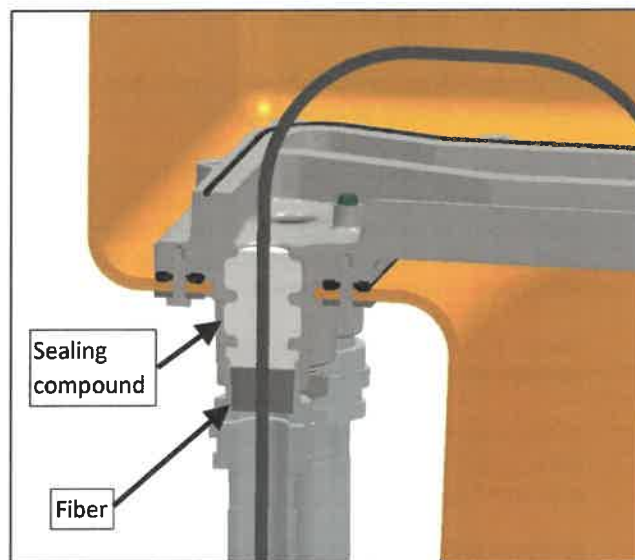

Figure 20
h) Integral sealing fittings are available at all five threaded entry points into the Kwik Wire junction box. As required by NEC and AHJ use UL approved fiber and UL approved sealing compound and pour into necessary sealing fittings. Follow instructions supplied with sealing compound. Allow compound to harden before proceeding. See Figure 20.